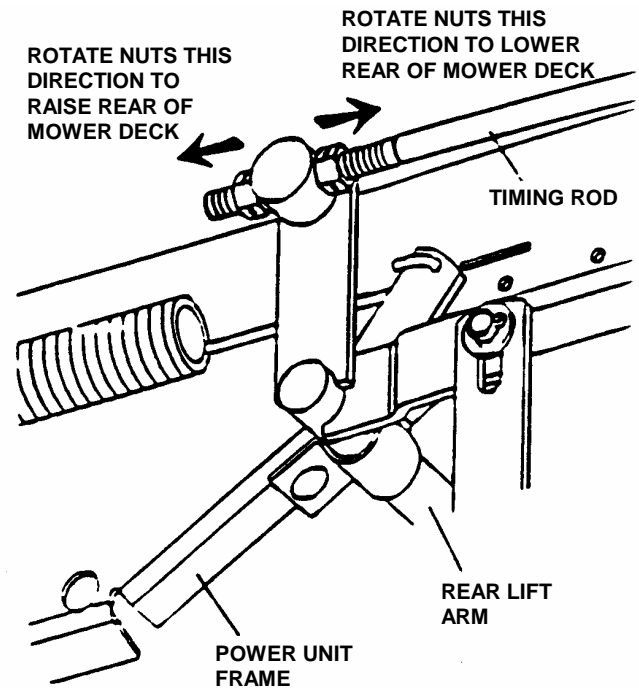

FIGURE 5.2A
13. **NOTE:** The timing rod connects the front and rear lift arms and maintains the deck in the same attitude through all heights of cut. Adjust the deck by loosening and rotating the timing rod adjusting nuts. Rotate both nuts forward to lower the rear of the deck or rearward to raise the rear of the deck. Tighten the nuts securely. See Figure 5.2A.